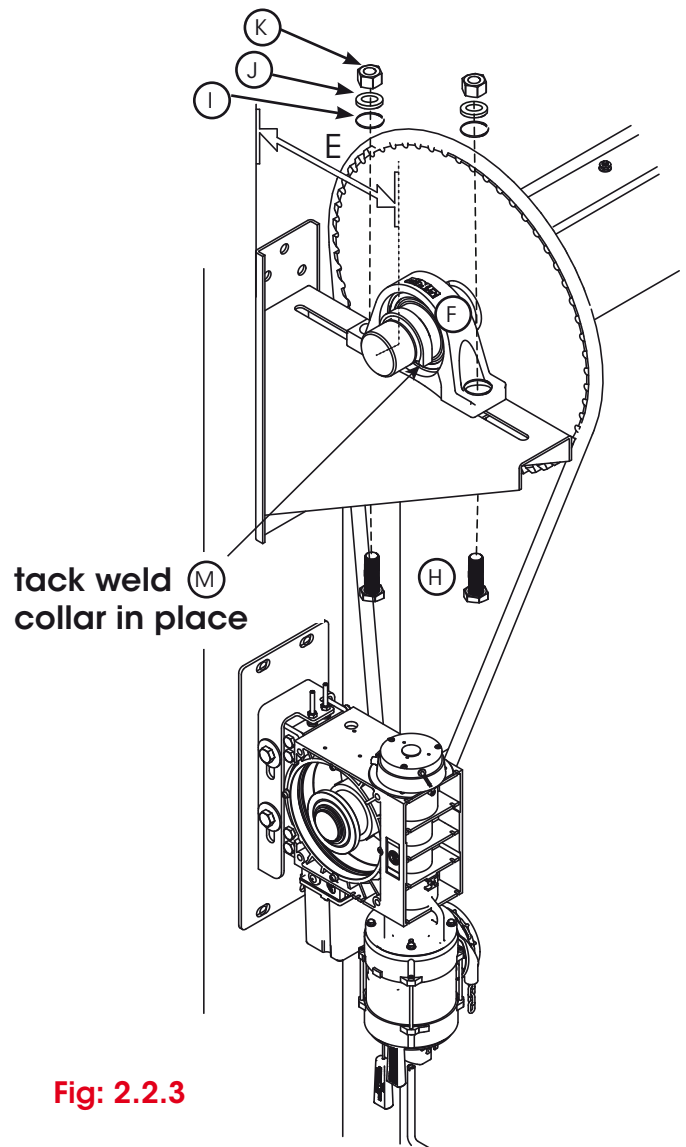

Fig: 2.2.3
- c) Before lowering onto the brackets slide the small chain sprocket, bearings (F) and safety brake (E) onto the ends, make sure they are correctly orientated.
- d) Fit the opener plate and opener as shown in Fig 2.2.3 using suitable fasteners as per **1.2 substrate fastener recommendations**.
- e) Position the drum onto the brackets as per fig 2.2.3 and 2.2.4 using measurement E from the dimension table, when satisfied the shaft collars (M) can be tack welded in place.
- f) Secure bearing and safety brake in place with Hex Head Bolts (H), spring washers (L), flat washers (K) and M22 nuts (I) as shown. Tighten the nuts on the bearings evenly to a torque of 40Nm or 30 ft.lb.